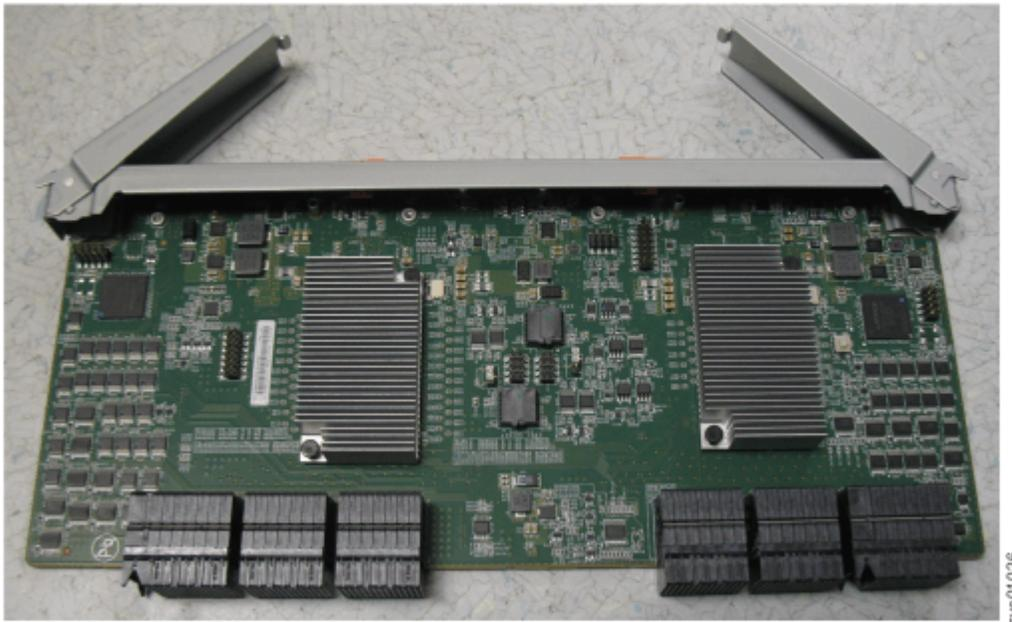

Figure 148. Secondary expander module removed from the enclosure
5. Place the secondary expander module in a safe location, as shown in Figure 148 on page 206.